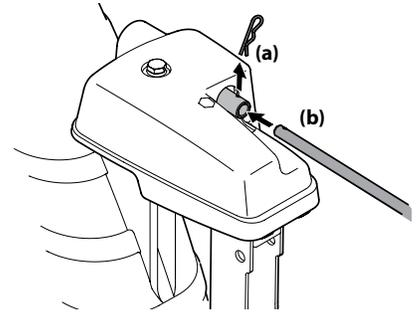

Figure 2-17
5. Remove hairpin clip (a) from rear of chute control head. See Figure 2-17.
6. Insert chute control rod (b) into rear of chute control head. See Figure 2-17. Secure chute control rod to chute control assembly with hairpin clip (a) removed in Step 5.